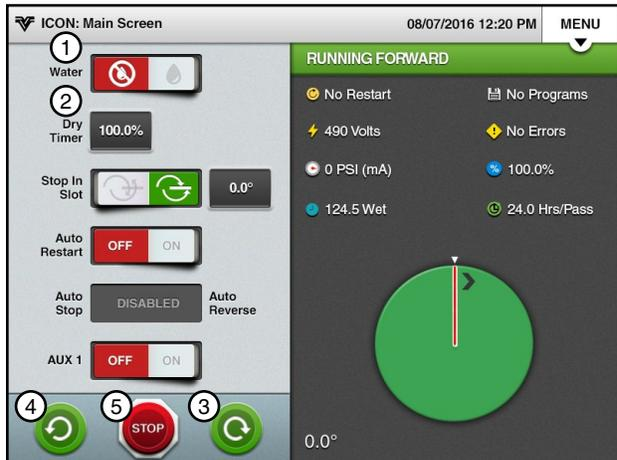

Figure 54-2 1. Water Off 2. Dry % Timer 3. Start Forward 4. Start Reverse 5. Stop
1. Push the **Water** button on the Main Screen to turn the water off. Refer to Figure 54-2.